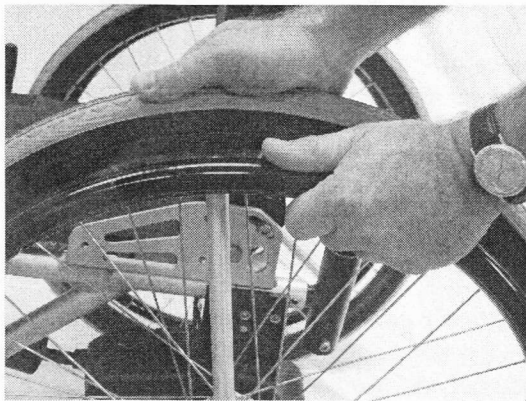

Figure 8
12. With one hand on the Wheel keeping it stationary, and one hand on the Push Rim, rotate the Push Rim with reasonably heavy force, backwards and forwards several times and observe the 3 Push Rim Assembly arms (see **Figure 8**). None of the arms should contact the wheel spokes.